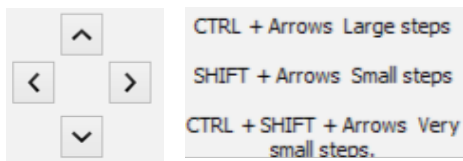

Fig. 4
2. Use the arrows in the *Export to Cutter* dialog to control the movement of the cutter head. All positioning is determined by the laser light (See Fig. 4).